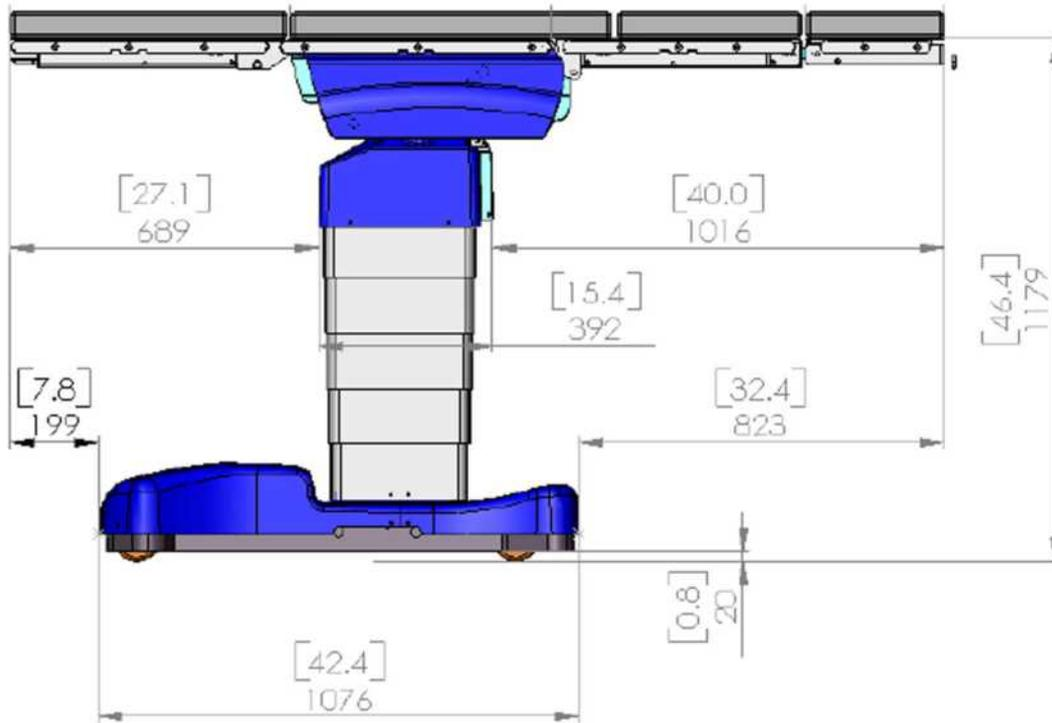

Fig. 3: Dimensions displayed based on: D850 one-piece long leg plate, kidney elevator, and one-piece back plate (max. slide at head end).
2. Figures 3 and 4 illustrate a sealing bead that is starting to wear. Figure 5 illustrates a case that is sealed with signs that it is starting to separate. These are acceptable but should be closely monitored. If questionable, contact BERCHTOLD Service.